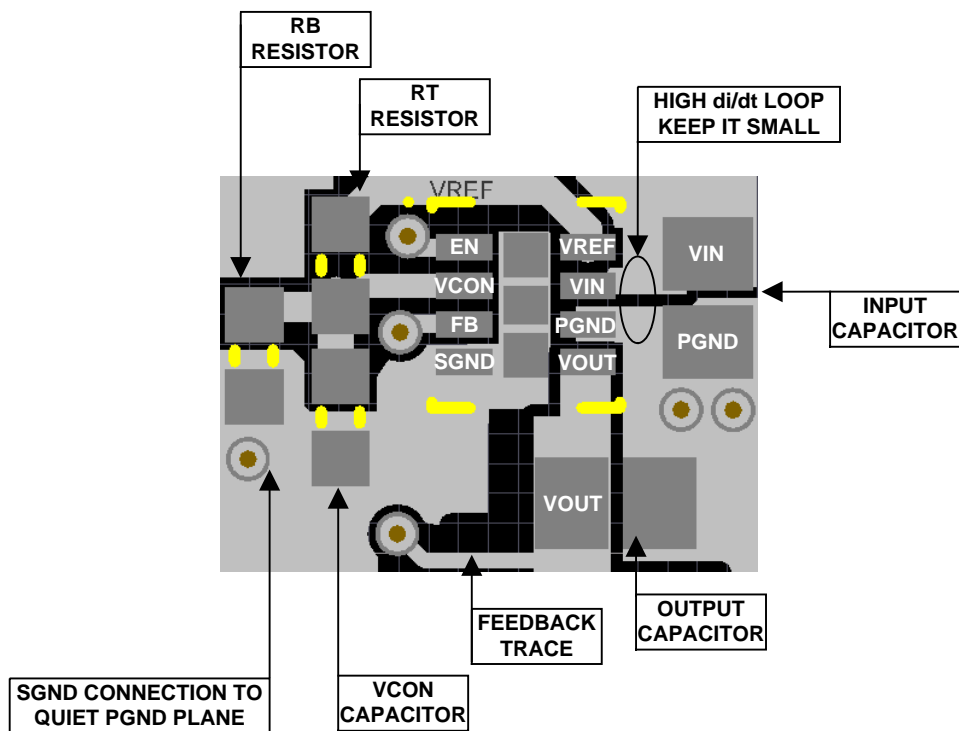

Figure 37. Example Top Layer Board Layout
The LMZ10501 integrates the inductor and simplifies the DC-DC converter board layout. Refer to the example layout in Figure 37. There are a few basic requirements to achieve a good LMZ10501 layout.
2. Place the V_{CON} filter capacitor C_{VC} and the R_B R_T resistive divider as close as possible to the V_{CON} and SGND pins. The C_{VC} capacitor (not R_B) should be the component closer to the V_{CON} pin, as shown in Figure 37. This allows for better bypass of the control voltage set at V_{CON} .